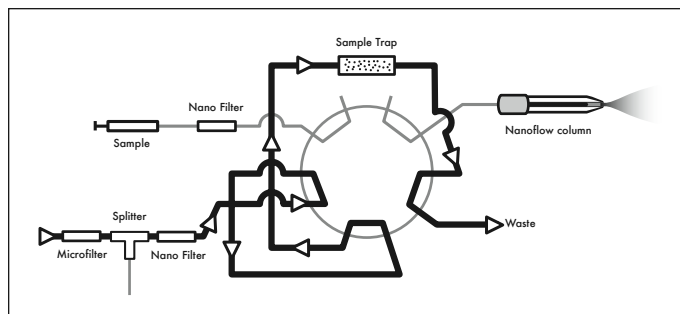

FIGURE 5 Loading sample onto trap for concentration and desalting (valve in Position 2)
- 2) Switch the valve to Position 2. High flow rate carries the sample from the sample loop to the sample trap for washing, desalting, and analyte concentration (Figure 5).